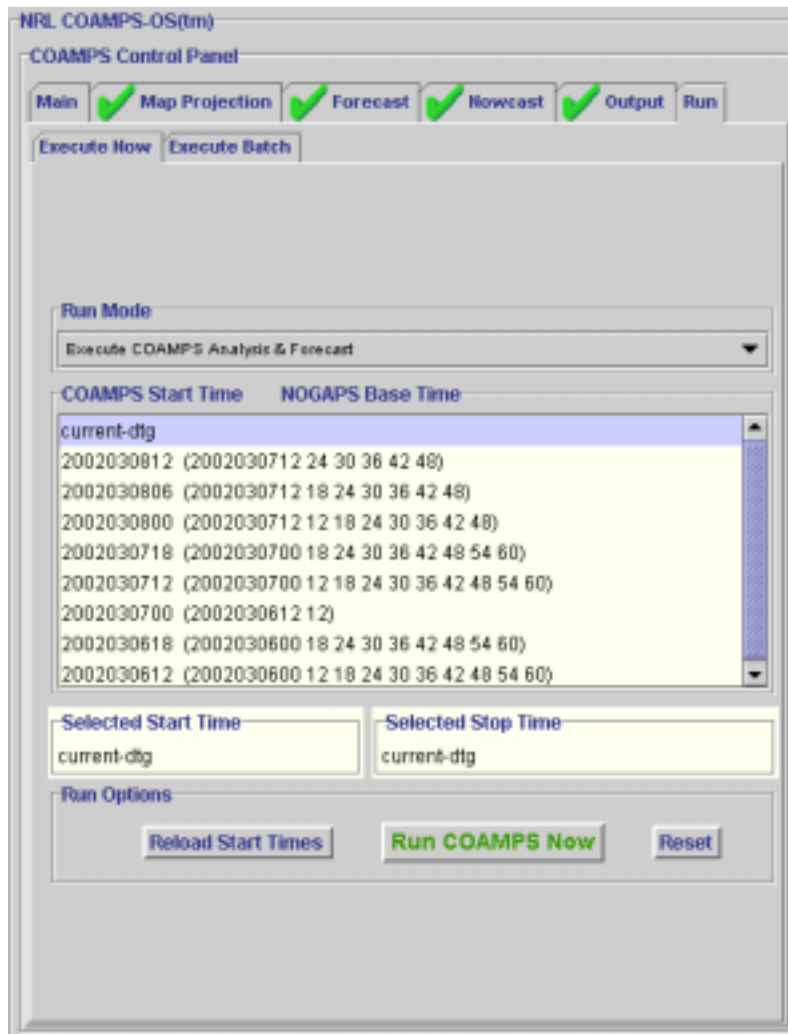

Figure 30. Run Setup Control Panel
The **Run Panel** (Figure 30) allows the user to execute the COAMPS model immediately or setup a batch run. A brief description of the **Run Panel** options is provided below with step-by-step instructions for running the model.
2. Move to the **Main Control Panel**, and click the **Run** tab. Selecting the **Run** tab opens the **Run Setup Control Panel** shown in Figure 30.